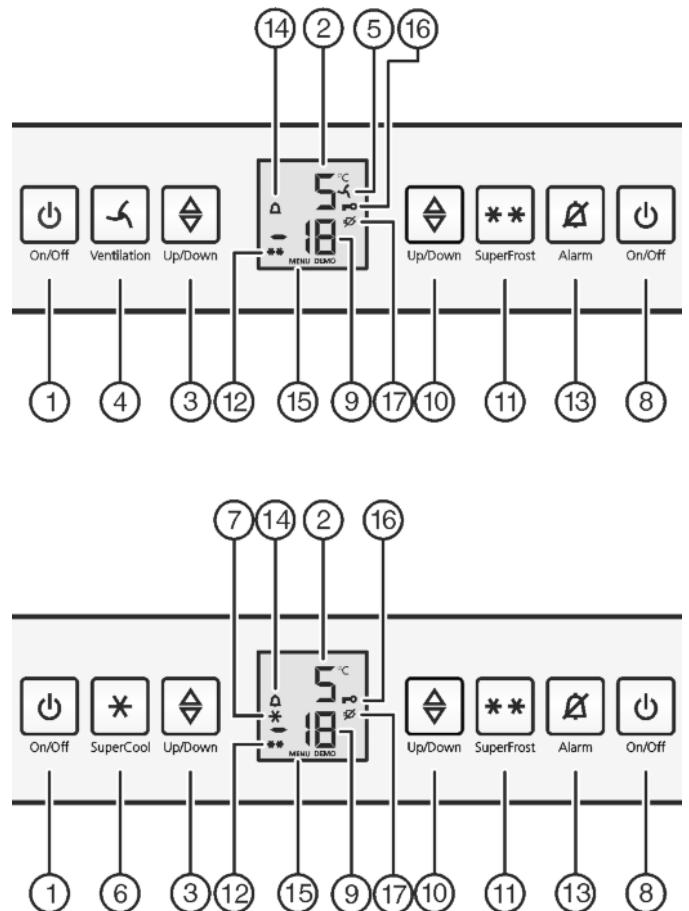

Fig. 2
- ▶ Press the freezer On/Off *Fig. 2 (8)* button.
- ▶ Press the fridge On/Off *Fig. 2 (1)* button.
- ▶ Activate setting mode: press the SuperFrost button *Fig. 2 (11)* for approx. 5 seconds.
- ▷ The Menu symbol *Fig. 2 (15)* is shown on the display.
- ▶ Briefly confirm with the SuperFrost button, *Fig. 2 (11)*.
- ▷ The child lock symbol *Fig. 2 (16)*, lights up on the display.
- ▶ Briefly press the freezer compartment On/Off button *Fig. 2 (8)*.
- ▷ The child lock symbol *Fig. 2 (16)* goes out.
The temperature display and the alarm symbol *Fig. 2 (14)* flash at the same time.
The audible alarm is automatically silenced, the alarm symbol *Fig. 2 (14)* goes out and the temperature display stops flashing when the temperature is sufficiently cold again.
- ▶ Press alarm button *Fig. 2 (13)*.